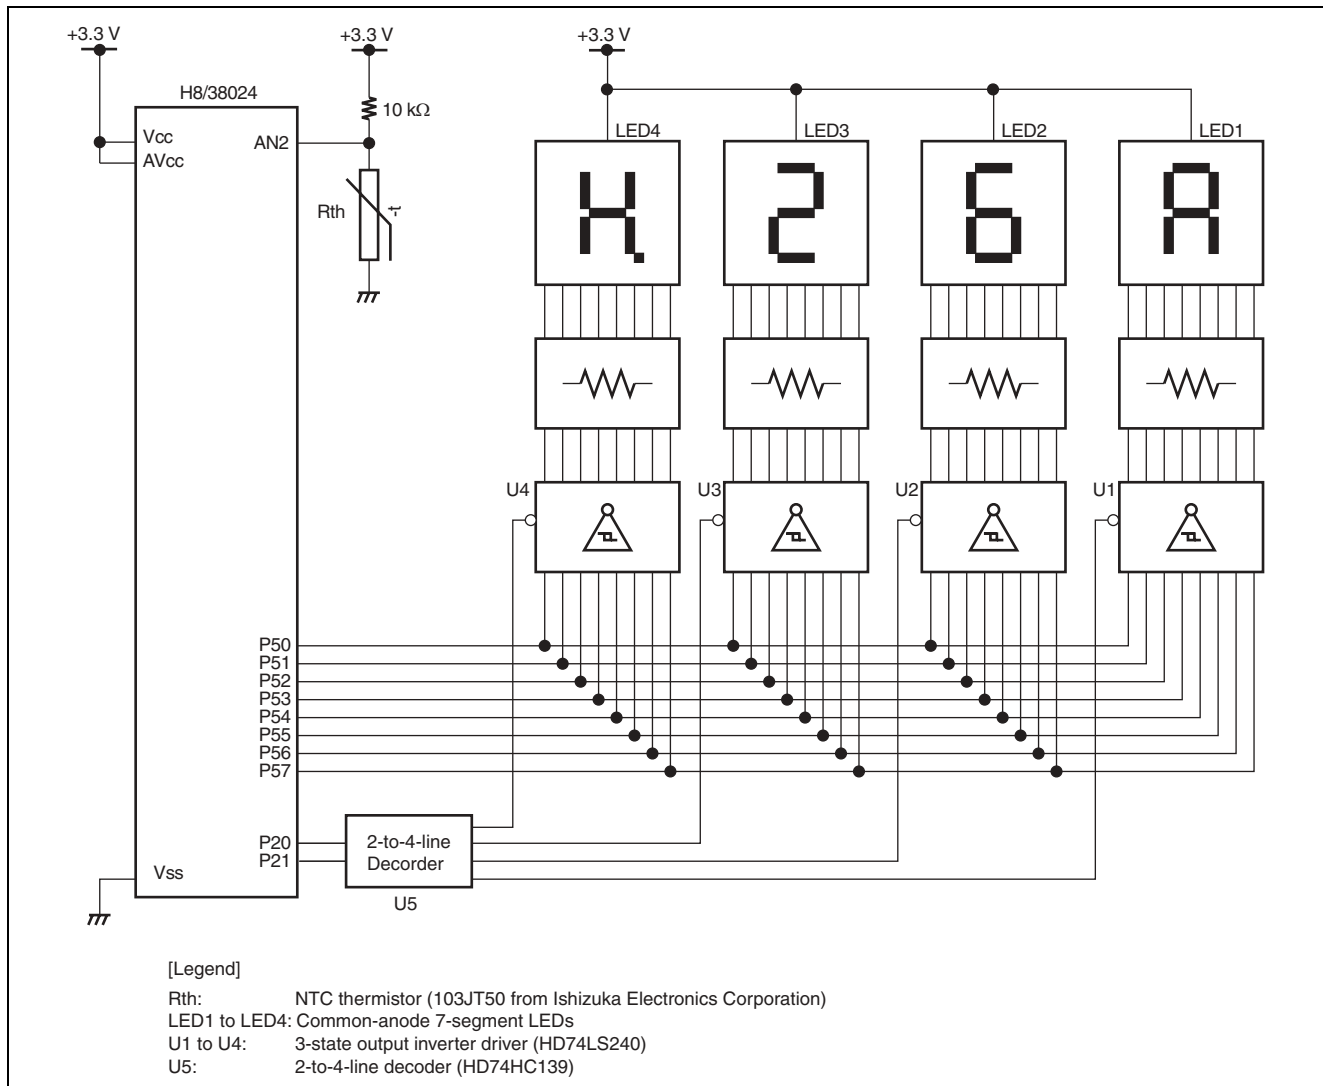

Figure 1.1 Hardware Configuration
1. Figure 1.1 shows the hardware configuration for an example of a thermistor connection. A resistor and NTC (negative temperature coefficient) thermistor are connected to the analog input pin 2 (AN2 pin) as shown in the figure.